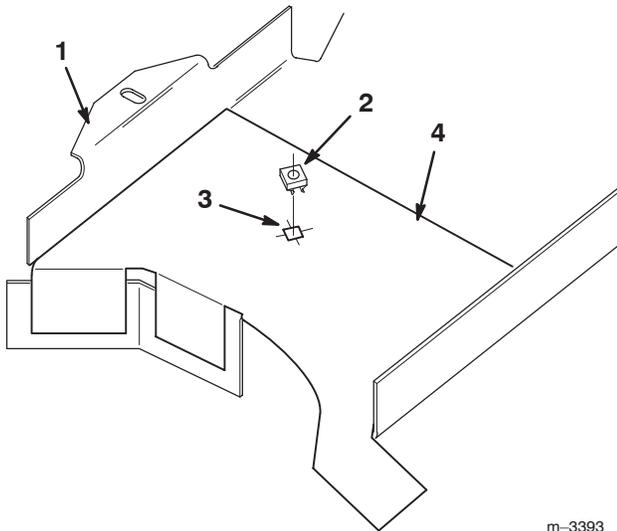

Figure 2
3. Fold the template tabs along the dotted lines, then tape the hole template onto the belt guard (Fig. 2).
4. Lay out, center-punch and drill a 5/16" hole in the center of the square hole as marked on the template (Fig. 2).
5. Use a file to open up the square hole as drawn on the template (Fig. 2).
6. Snap the retainer nut into the square hole in the belt guard from the back side of the guard (Fig. 2).